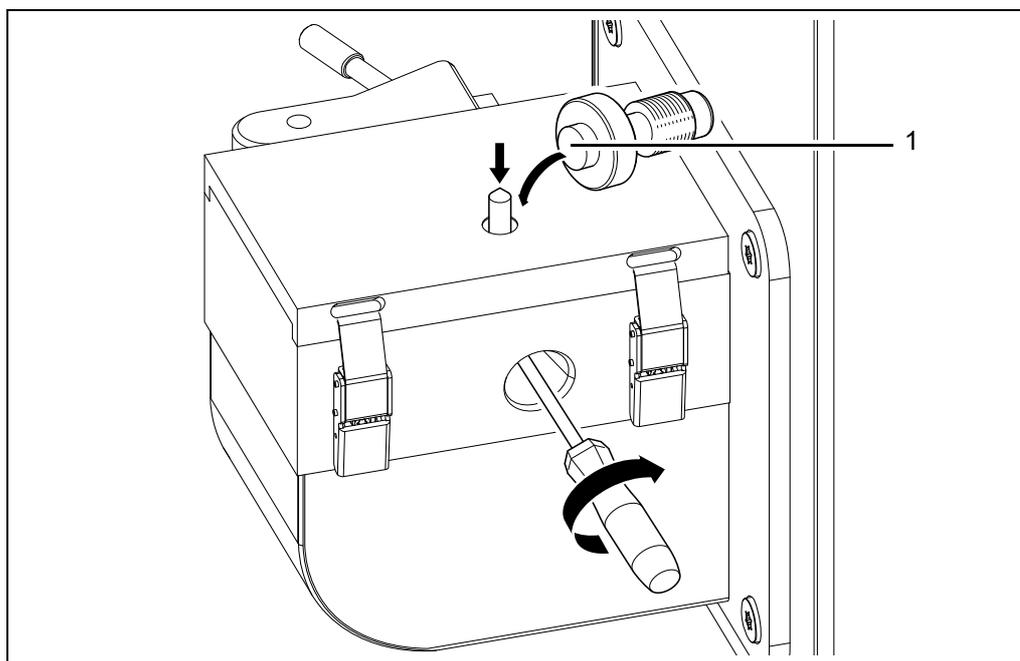

Fig. 9-5 Installing the electrode
6. Completely press down the new electrode with the head (1, fig. 9-5) of the spacer to adjust the correct distance to the sample. Simultaneously fasten the grub screw to the electrode clamp.